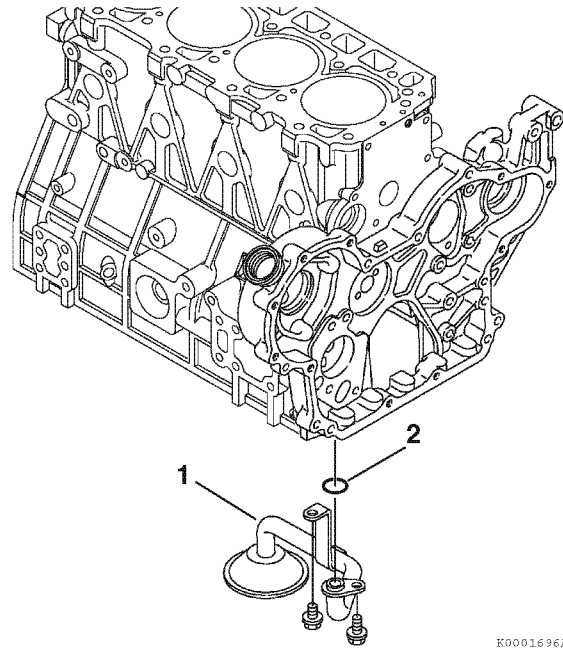

Figure 6-103
1. Reinstall the oil pickup tube (Figure 6-103, (1)) using a new O-ring (Figure 6-103, (2)).